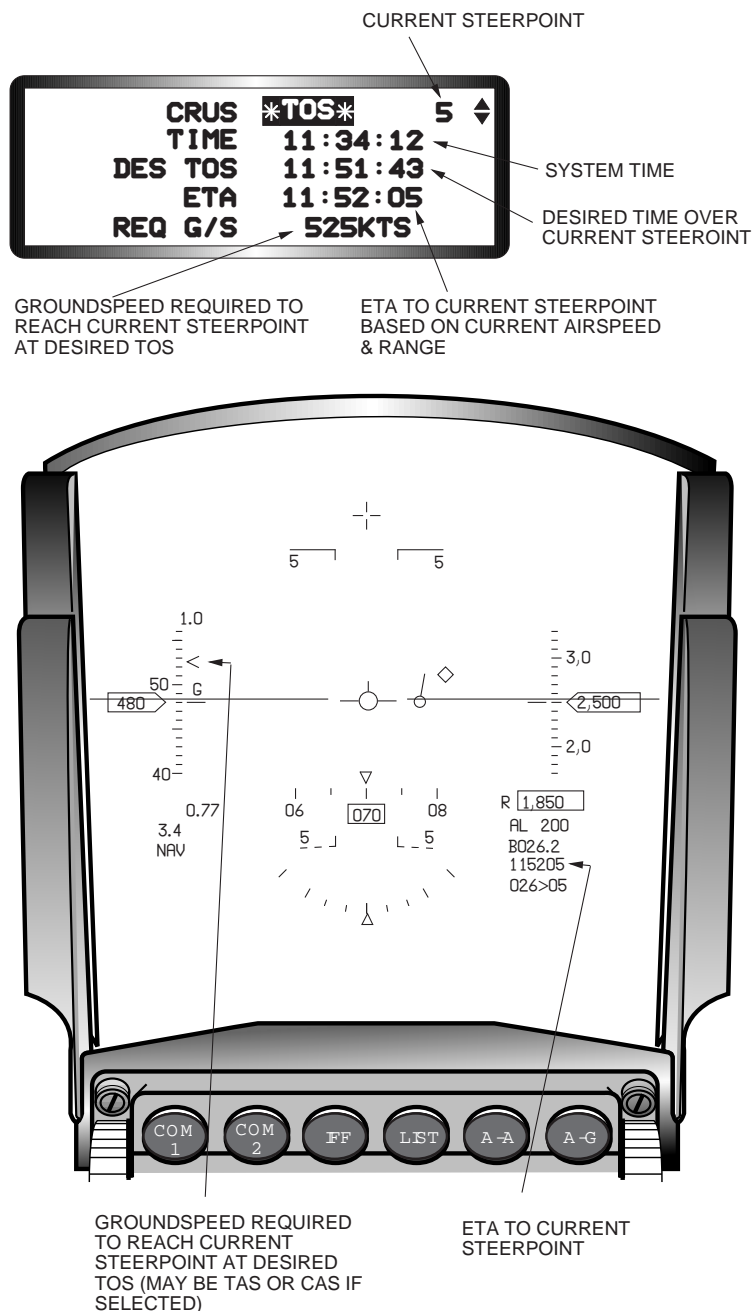

Figure 2-15 Cruise Time-Over-Steerpoint Option
Time Over Steerpoint. The TOS cruise Energy Management (EM) function provides an Estimated Time of Arrival (ETA) at the currently selected steerpoint in system or hack time, as selected, and a required ground-speed to reach the currently selected steerpoint at a desired TOS. The computation is made from the aircraft present position to the currently selected steerpoint. The currently selected steerpoint, system or hack time, desired TOS, ETA at the current steerpoint using current flight conditions, and ground speed required to make good the desired TOS are displayed on the CRUS TOS DED page (Figure 2-15). When TOS is mode selected, an airspeed caret is displayed on the airspeed scale in the HUD which represents the computed airspeed (Ground Speed (GS), TAS, or CAS, as selected) to reach the currently selected steerpoint at the desired TOS, and the time to steerpoint in the HUD is replaced with the ETA to the current steerpoint. The pilot may enter TOS values for each steerpoint either during preflight planning and load with the DTC, or manually using the UFC and the CRUS TOS DED page.